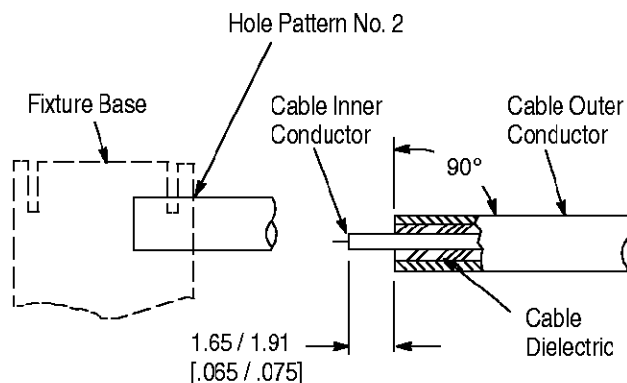

Figure 3
### 3.1. Preparing the Cable (Figure 3)
5. Complete trimming of cable inner conductor to dimension shown in Figure 3.